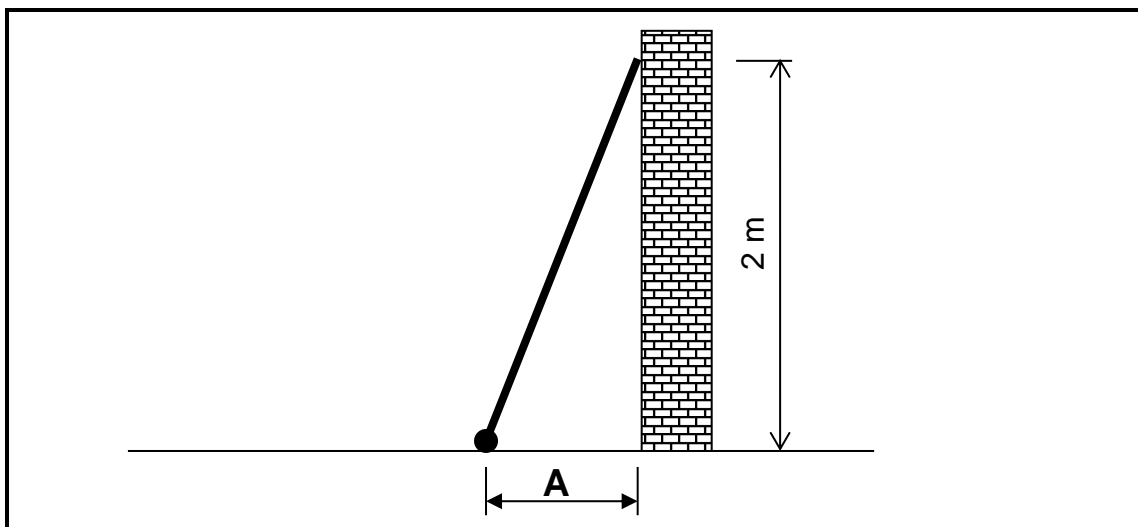

FIGURE 1.5
- 1.5 FIGURE 1.5 shows a ladder that is placed against a wall. What is the correct measurement at **A** to keep it stable? Show or indicate how to achieve the ratio. (2)